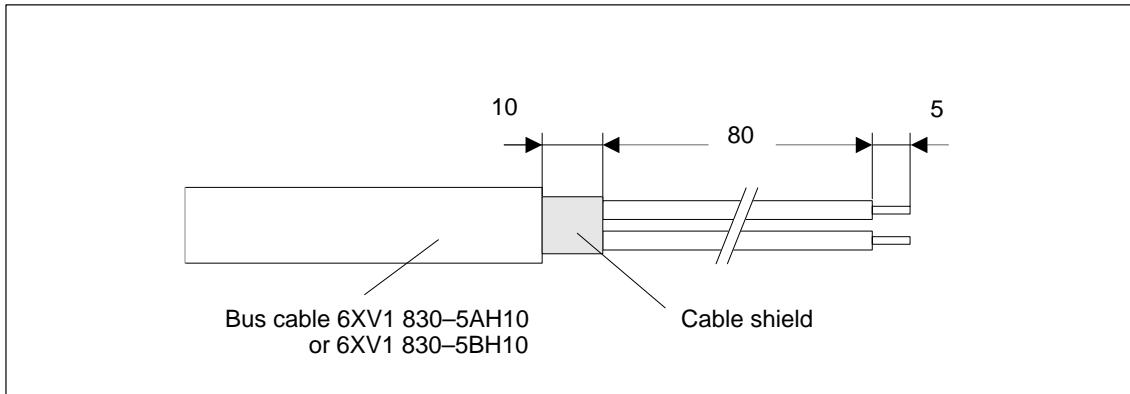

Fig. 3-11 Preparation of the bus cable, **devices with PROFIBUS PA**
1. Strip back the bus cable insulation as shown in Fig.3-11.